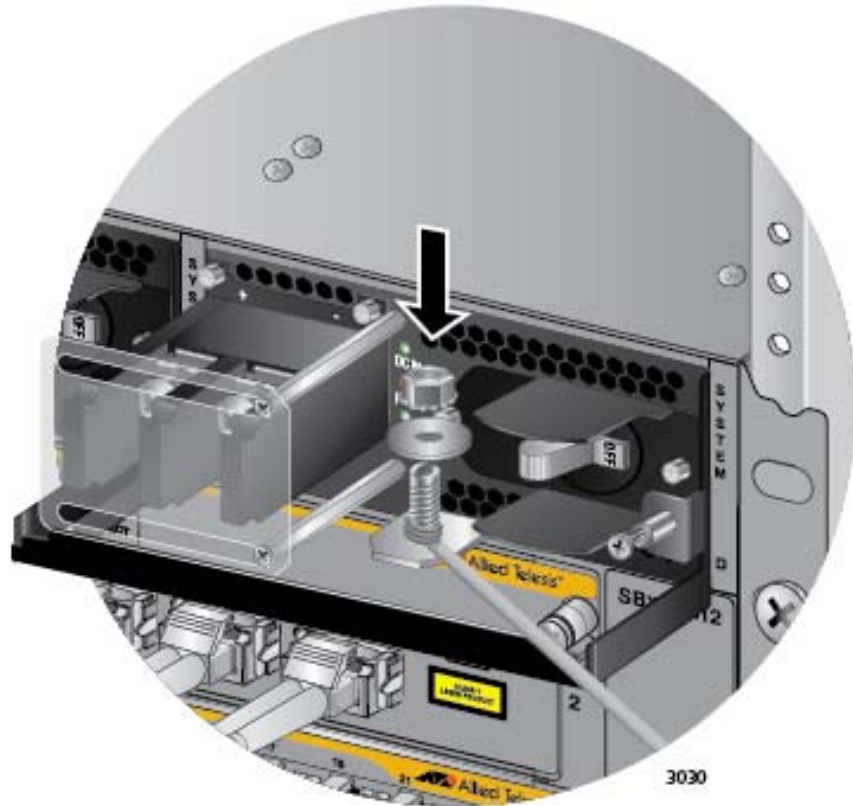

Figure 103. Securing the Bare Grounding Wire to the Grounding Post
- Secure the wire with the nut and washer removed in step 2, and an 8 mm wrench, as shown in Figure 103.